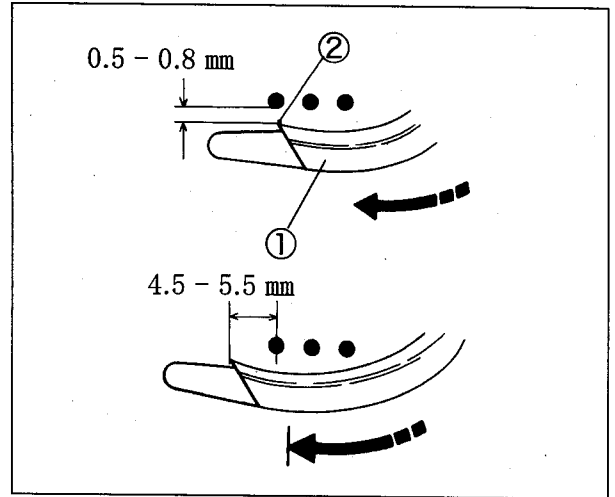

Fig. 47
- (2) Make the clearance between the left needle and the hook ② of the spreader ① to 0.5 - 0.8 mm. (Fig. 47)
- (3) Make the clearance between the center of the left needle and the hook ② to 4.5 - 5.5 mm when the spreader ① is at the extreme left. Then tighten the screw ④ securely. (Figs. 47 and 49)